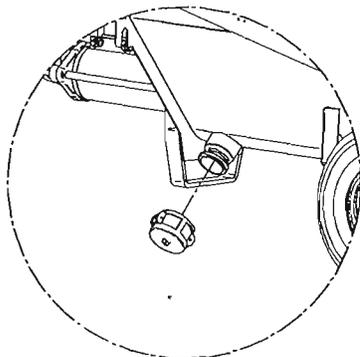

FIG 11
-Remove the plug at the bottom of the hopper (fig. 11) and use water to wash the machine thoroughly, starting from the bag splitter if installed.
If there is any risk of freezing, open the hopper plug, disconnect the pipelines and drain all water from the circuit (fig.11).